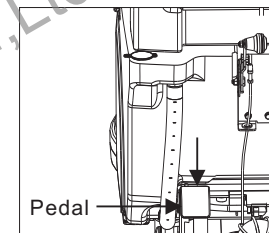

fig. 5
- ② Step on the pedal and move it leftward to release it and lower the brush(fig. 5).